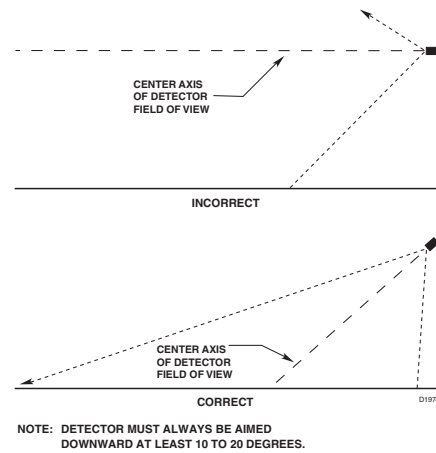

Figure 1—Detector Orientation Relative to Horizon
- The detector should be aimed downward at least 10 to 20 degrees to allow lens openings to drain. See Figure 1. **The detector should be positioned so that its FOV does not cover areas outside the area that requires flame detection monitoring** This will minimize the possibility of false alarms caused by activities outside the area requiring protection.
(See Figure 1 for Correct Detector Orientation.)